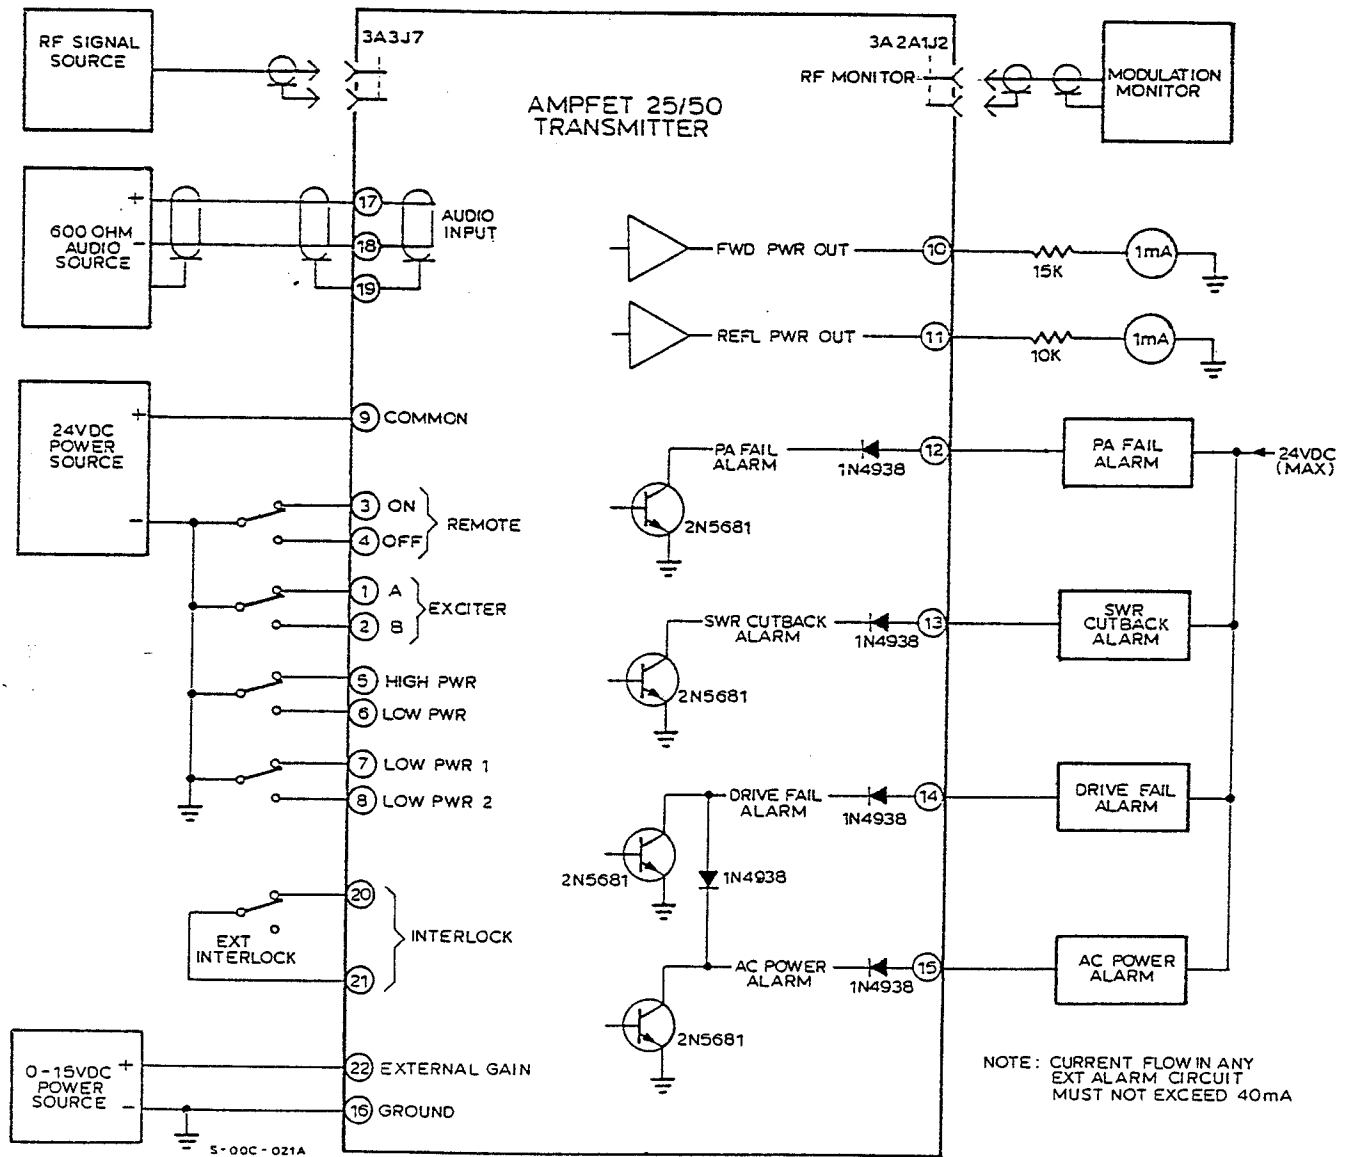

Figure 3-3 External Input/Output Interface
- (b) Using figure 3-3 as a guide to determine final destinations, cut the wires to the length required to attach to the identified termination when the wiring is neatly dressed and bundled.
- (d) Connect the wires that terminate at 3A2TB1 to their appropriate terminals (see figure 3-3).